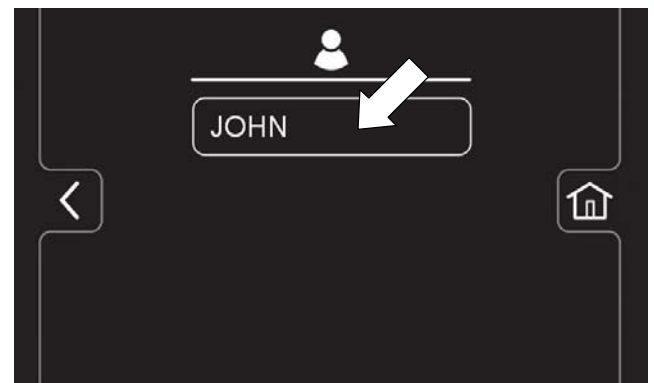

FIG. 188
7. Select a pre-assigned user profile. In this example, operator profile "JOHN" is selected (Figure 188). Turn the key off to apply the setting.